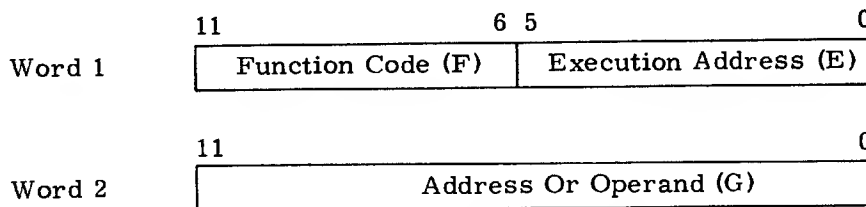

Figure 3-1. Processor Instruction Word Formats
A one-word instruction has a 6-bit function code (F) and a 6-bit execution address (E). Most instructions require only one word of storage but expanded instructions occupy two words. Figure 3-1 shows the processor instruction word formats. The second word contains a 12-bit address or operand (G), depending on the instruction. Both words 1 and 2 must be located in sequential storage addresses in the same memory bank.